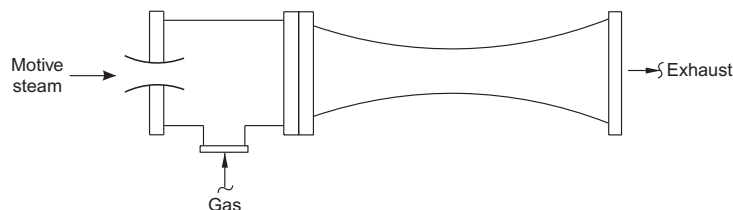

FIG. 27.1 Converging-diverging ejector.
“My main interest with steam is its widespread use in petroleum refinery steam ejectors. I’ve written a book on this subject [1]. In Fig. 27.1, I’ve shown a sketch of a converging-diverging steam ejector. Most of the electricity which we generate on earth relies on use of the ejector. About 30% of clean products are recovered from black crude oil by use of the steam ejector. Most of our giant rotary engines, which we call steam turbines, also rely on this steam vacuum ejector. The vacuum ejector is a gas compressor, but without any moving mechanical parts.”
“Yes. The high pressure steam at 170 psia and 400°F shown in Fig. 27.1, enters the steam nozzle at 200 ft per second. Due to the shape of the nozzle, the steam exits from the steam nozzle at 10,000 ft per second and typically a pressure of 0.4 psia (20 mm of Hg, absolute). That increase in the velocity of the steam represents a great increase in the kinetic energy or the momentum (mass times velocity) of the steam.”
“Here’s the problem. It’s the kinetic energy of the steam that compresses the air leaks. The faster the steam blows out of the steam nozzle, the more compression work it can do on the noncondensable air leaks. As the steam slows down through the diffuser (see Fig. 27.1), its velocity or kinetic energy or momentum, is converted into pressure in accordance with Bernoulli’s principle. But the kinetic energy of the steam is derived from its heat content. If the steam is very wet, then the water evaporates into steam as it comes out of the steam nozzle. That robs the steam of some of its heat content or enthalpy, which would otherwise be used to convert to kinetic energy.
“That is, moisture slows the steam as it leaves the steam nozzle. Slow steam can’t compress the noncondensable gas as efficiently as high velocity steam. The compression ratio inside the diffuser (see Fig. 27.1) is reduced. Since the discharge pressure of the ejector is fixed by the condensing pressure in the downstream condenser, the pressure at the suction of the ejector must increase.”
- Check the pipe temperature of the steam supply line to the ejector, and compare it to the temperature of the ejector’s diffuser inlet (Fig. 27.1) (using an infrared temperature gun).